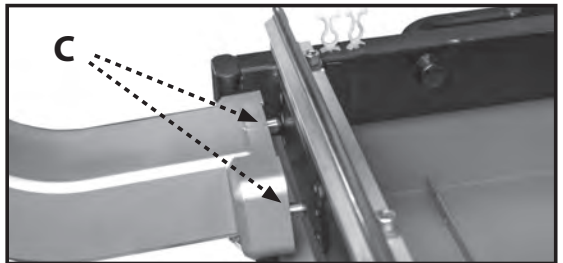

FIGURE 6
1. Position the saw arm assembly (5) so that the two pins (C, Fig. 6) on the mounting plate align with the two middle holes in the main frame (1)